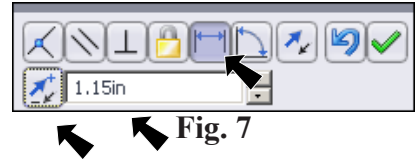
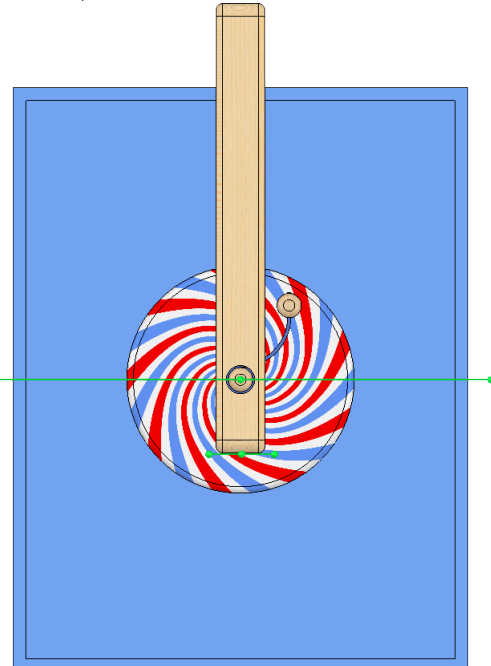

Fig. 7
Fig. 8
Step 4. Click **Distance** in Mate pop-up, **Fig. 7**. Set **distance 1.15** and press ENTER. The Flywheel should be centered in Box, **Fig. 8**. If positioned in opposite direction, click **Flip Dimension** in the Mate pop-up, **Fig. 7**. Click **Add/Finish Mate** to add Distance mate.